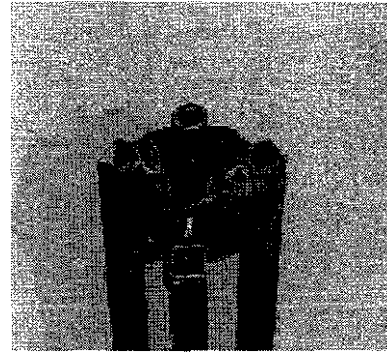

figure 23
- a. Number the tubes on the core as 1, 2, and 3 (figure 23).